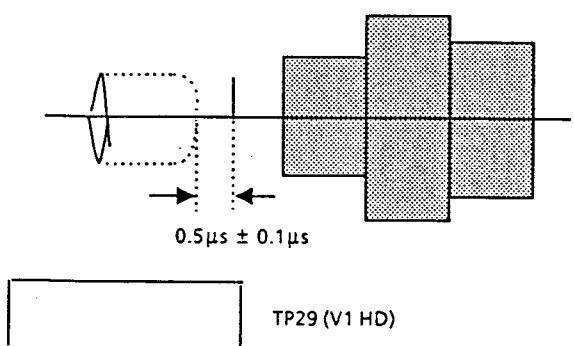

Fig. 4-5
- Adjust VR8 so that the burst blanking (masking) width becomes $0.5\mu s \pm 0.1\mu s$. (Fig. 4-5)